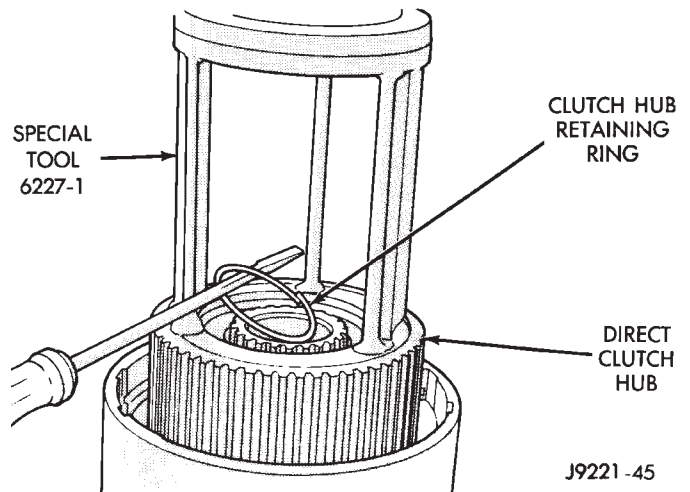

Fig. 23 Removing Direct Clutch Hub Retaining Ring
- (12) Remove direct clutch hub retaining ring (Fig. 23).